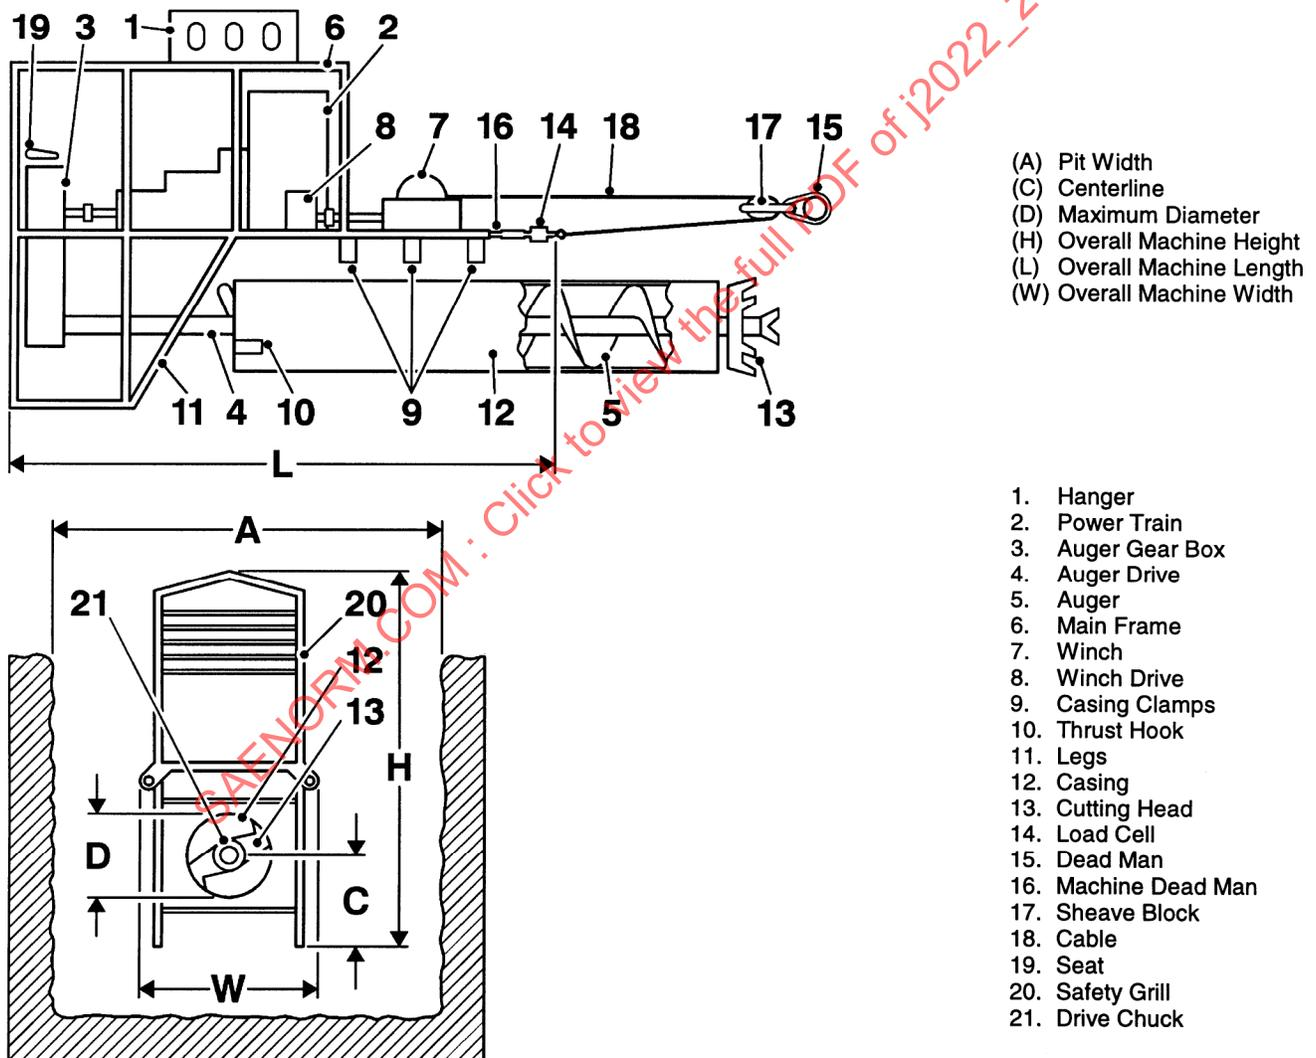

FIGURE 2—CRADLE-TYPE AUGER BORING MACHINE
4.1.2.1 Nomenclature—(Refer to Figure 2.)